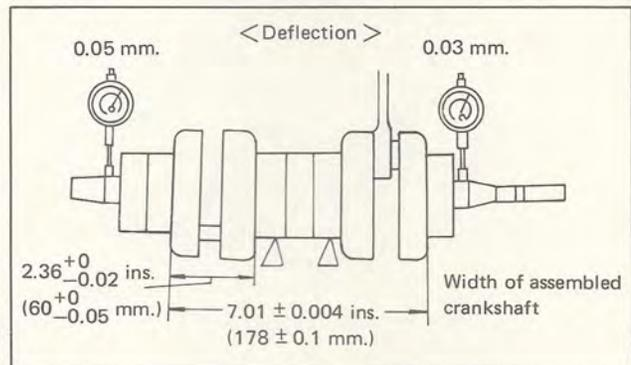

Fig. 2-53
- (3) Crankshaft run-out can be checked by placing the crankshaft ends in V-blocks. By using a dial indicator the deflection of the crankshaft should be measured at the places shown. (Fig. 2-53)